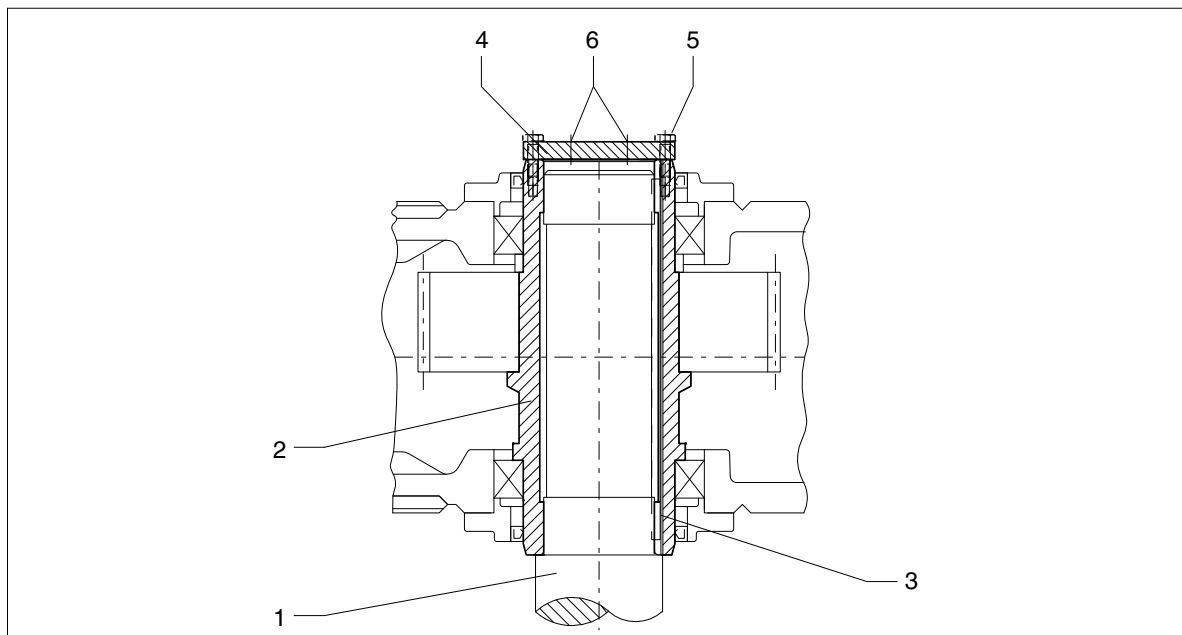

Fig. 53: Hollow shaft with parallel keyway, demounting with end plate
- preferably using forcing-off screws in an end plate (see figure 53) or